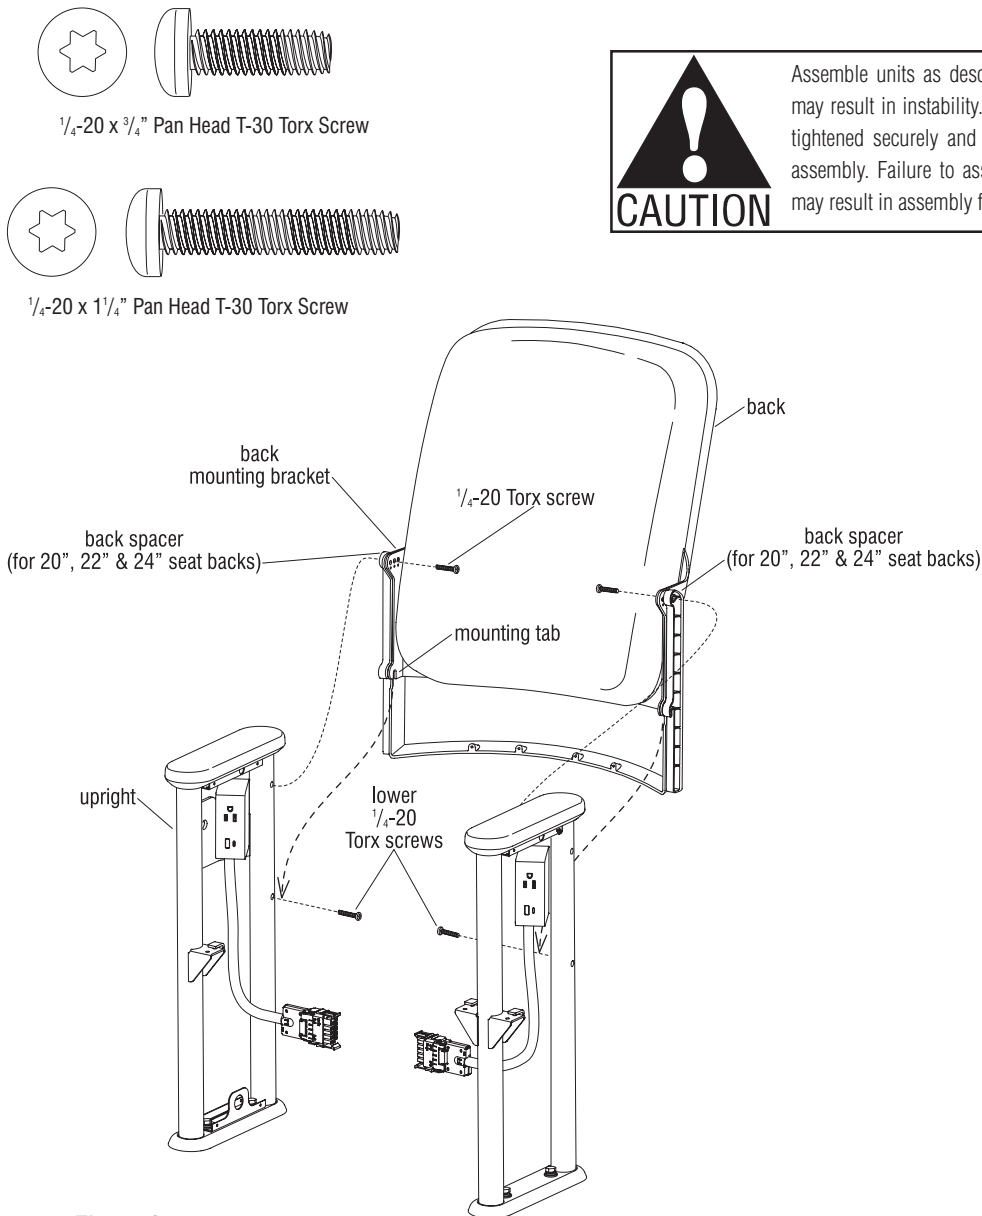

Figure 2
2. Install either the 1/4-20 x 3/4" or the 1/4-20 x 1 1/4" T-30 Torx screw into the **lower** back mounting hole on both uprights. For 19", 21" and 23" units, leave a minimum of 3/8" of threads exposed when using the 3/4" screws; and for 20", 22" and 24" units (with spacers), leave a minimum of 7/8" of threads exposed when using the 1 1/4" screws (Figure 2).
need additional inward pressure on the mounting brackets to squeeze between the uprights (Figure 2).
4. Install and tighten the appropriate 1/4-20 Torx screws in the top of both sides of the unit. Tighten the screws in the lower holes (Figure 2).